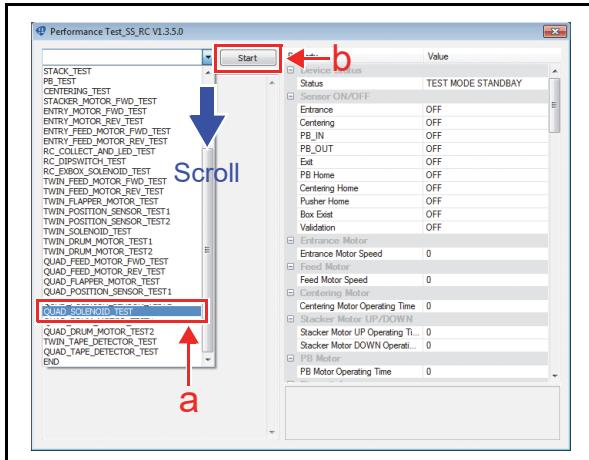

**Figure 6-64 Note Position Sensor D -F Test 3**
6. Confirm the “ON/OFF” indication (Detected/NOT Detected) appeared in the “RC-Position sensor 2 (RC-Quad)” area (Figure 6-64 a).
7. Click the “Stop” Screen Button (Figure 6-64 b) to end the test.